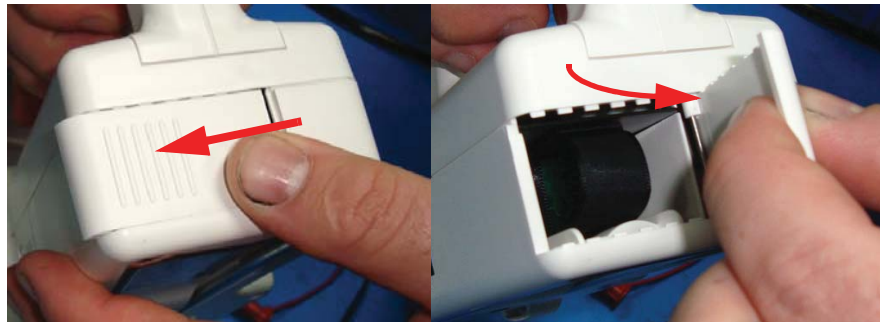

Figure 3-1 Open the battery compartment door
2. Open the battery compartment by sliding the battery compartment door on the bottom of the unit to the left to unlock it. When the door is unlocked, open the door. The hinge is on the right side of the door. See Figure 3-1.